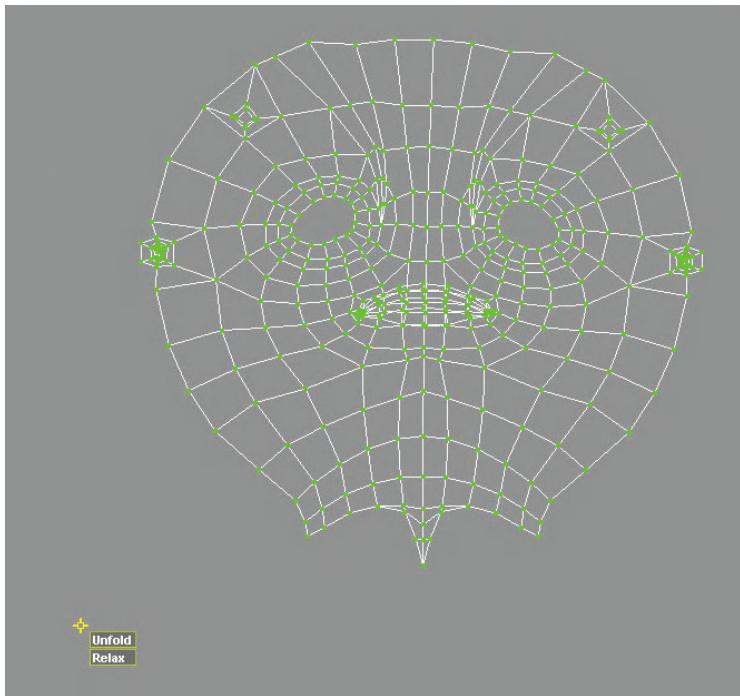

FIG 5.37 Using the Smooth UVs Tool's Unfold function to further refine the face UV shell.
Step 12: Unfold – via Smooth UVs – this new face UV shell (Fig. 5.37).